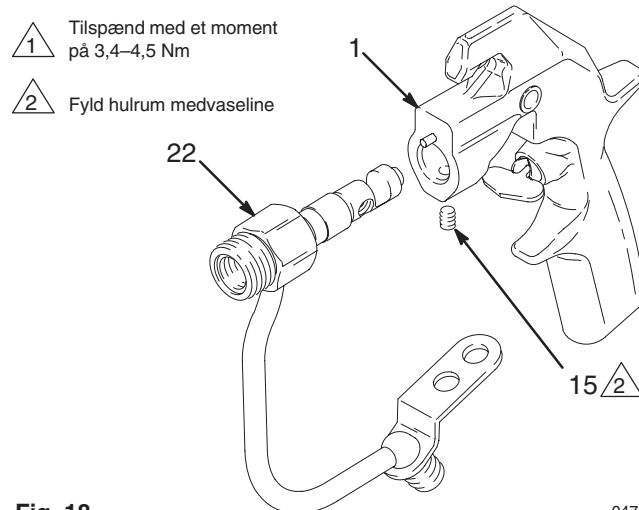

Fig. 18 04736
6. Push the fluid housing (22) onto the gun body (1) until fully seated. Tighten the setscrew (15) to 3,4–4,5 N.m. Fill the setscrew cavity with petroleum jelly. Se Fig. 18.